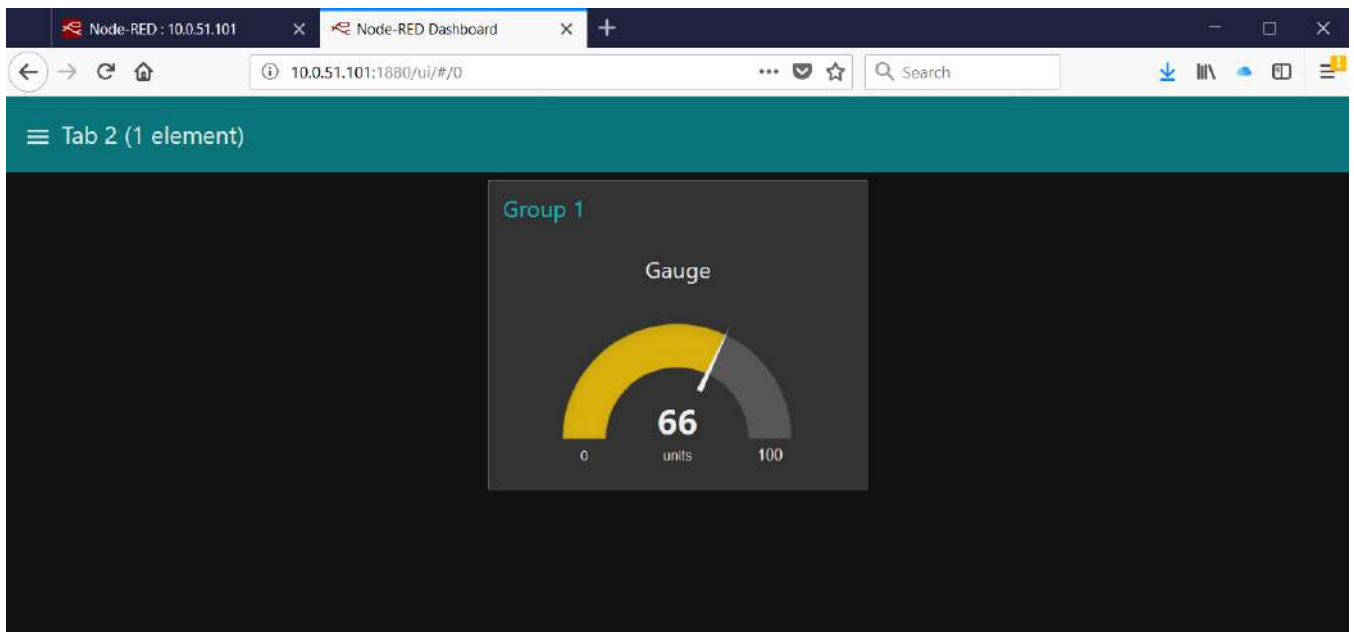

Figure 7.15 Dashboard Dark Theme settings
- Dark : dark grey background, and colors as in Figure 7.15